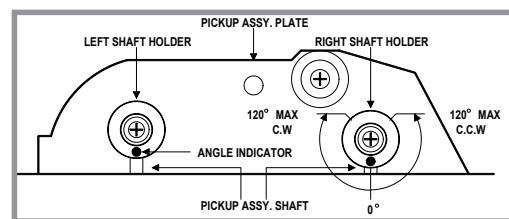

Figure 3
9. Press OPEN/CLOSE button on the front panel to open the tray. Squeeze the left base plastic holder part by using the needle nose pliers and rotate 90 degrees counterclockwise from the current angle indicator point. Refer to figures 3 and 4. Check the small screw on top of the plastic holder by using a small Phillips screwdriver. Turn the screw lightly clockwise if it is loose.